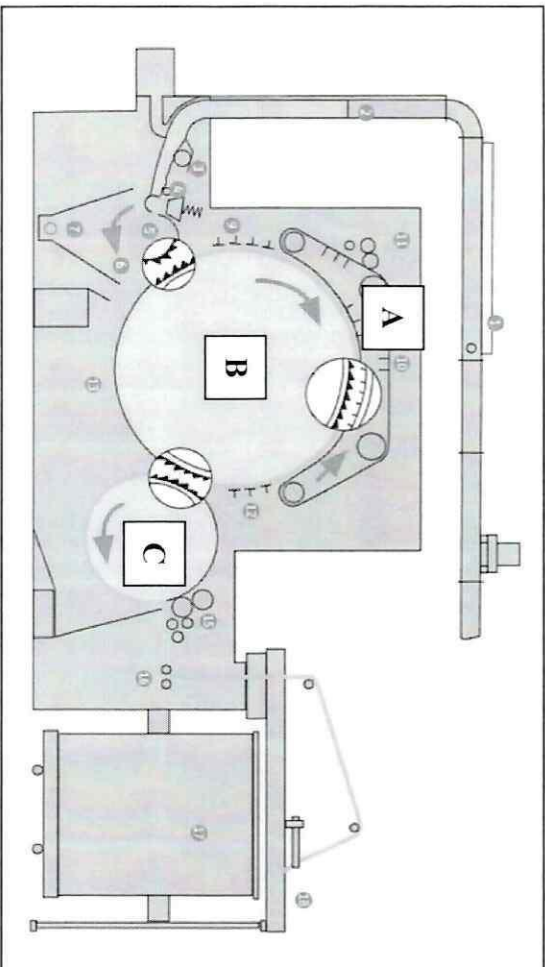

Figure Q1 (c)
- (iii) List **TWO (2)** factors affecting the properties of blended yarns. (2 marks)
- (i) Sketch **THREE (3)** opening devices used in blowroom line. (3 marks)
- (ii) Describe **THREE (3)** factors affecting the intensity of the opening. (3 marks)
- (i) Name the parts A, B and C in **Figure Q1 (c)**. (3 marks)
- (d) Point out **TWO (2)** of the reasons why fibres must be prepared before combing process can be performed. (2 marks)